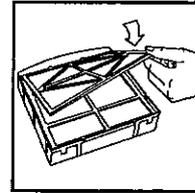
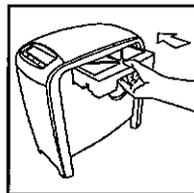

Fig. 34
Fig. 35
- Place the filter screen back into the filter assembly (Fig. 34) and reinsert back into the air washer unit (Fig. 35).